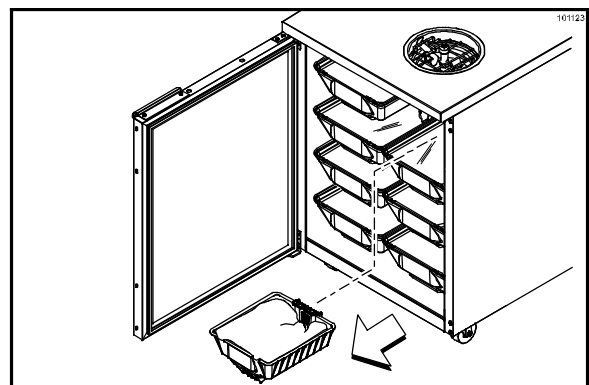

Figure 152
- Remove the appropriate product bin. (See Figure 152.)